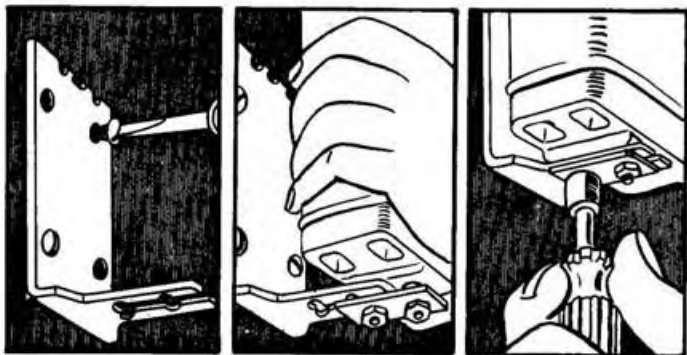

Fig. 2
Tighten 2 nuts (A) to fasten protector to bracket, Fig. 2.